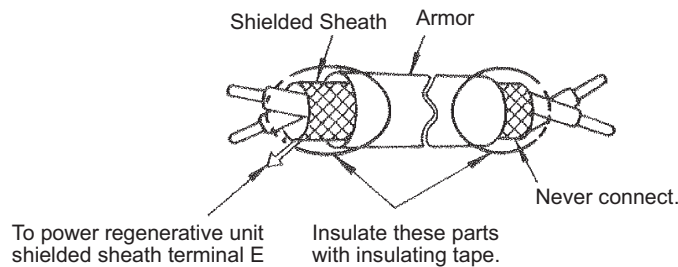

Figure 3.3 Shielded Wire Termination
- Use twisted shielded or twisted-pair shielded wire for the control circuit line and connect the shielded sheath to inverter terminal E. (See Figure 3.3)